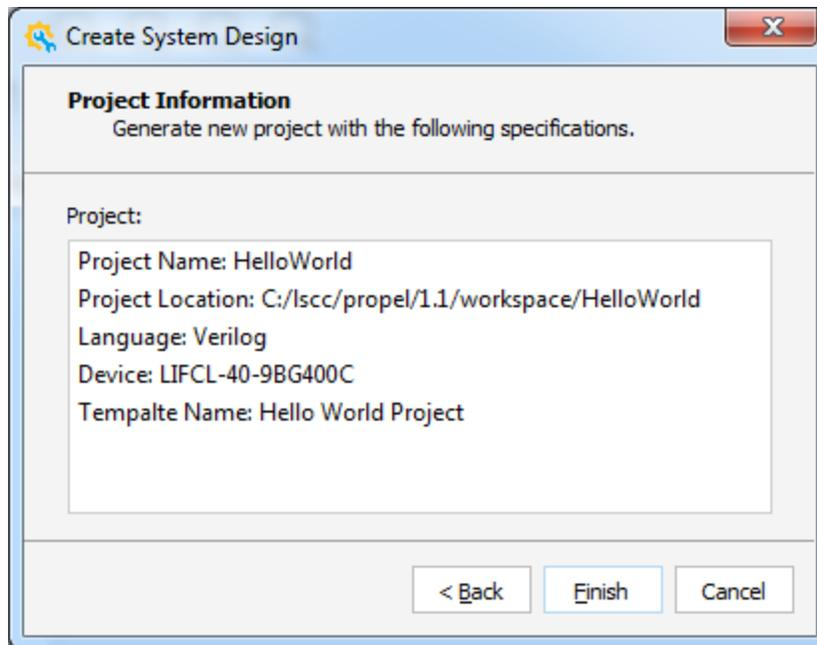

Figure 2.10. Project Information Wizard
7. Click **Next**. The Project Information wizard opens (Figure 2.10).